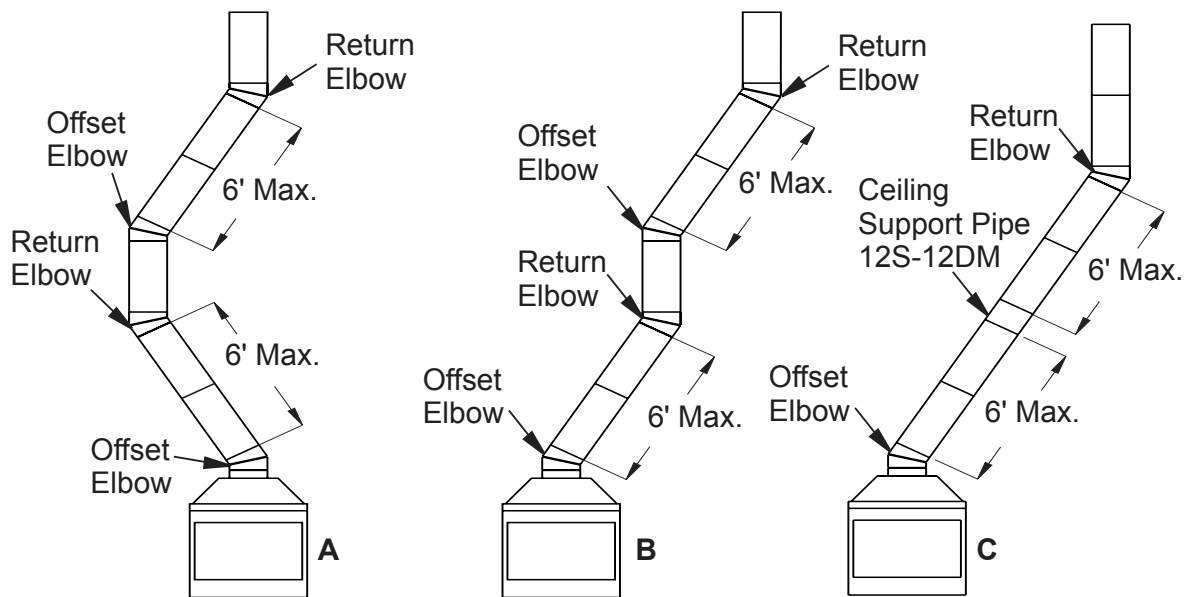

Figure 11 - Typical Offset Terminations
3. Maximum length of pipe between supports (return elbow or 12S-12DM) is 6' of angle run. Maximum of two 6' angle run sections per chimney system (see Figure 11, page 10).